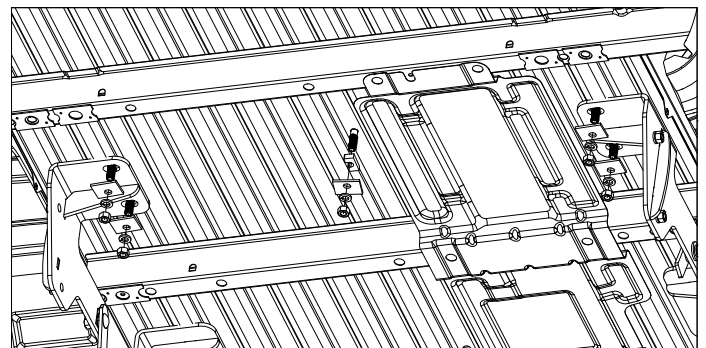

Figure D2: View under bed from rear of truck. (Frame & U-bolts not shown.)
2. **Install hardware on rear mounting rail.** Under the bed install an offset square washer, 1/2" lock washer, and 1/2" finish nut on each of the carriage bolts. See Figure D2. Place the U-shaped spacer. Hand tighten hardware.